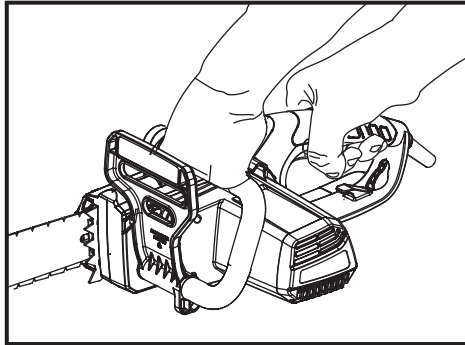

Fig. 15
1. Make sure the chain brake is disengaged. Disengage the chain brake by pulling the front safeguard (chain brake lever) (4) back towards the front handle (3).
2. Place the product on any suitable flat surface, make sure the saw chain (12) is not touching the surface or other objects.
3. Hold the product with left hand on the front handle (3) and right hand on the rear handle (1) (Fig. 15).